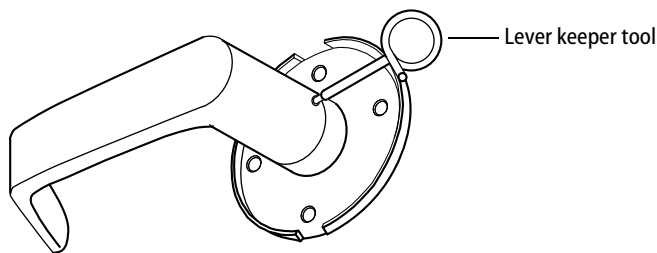

Figure 3 — Removing the 7KC lever
- Disengage the lever by pushing the lever keeper tool into the hole on the lever and sliding the lever off of the sleeve. See Figure 3.